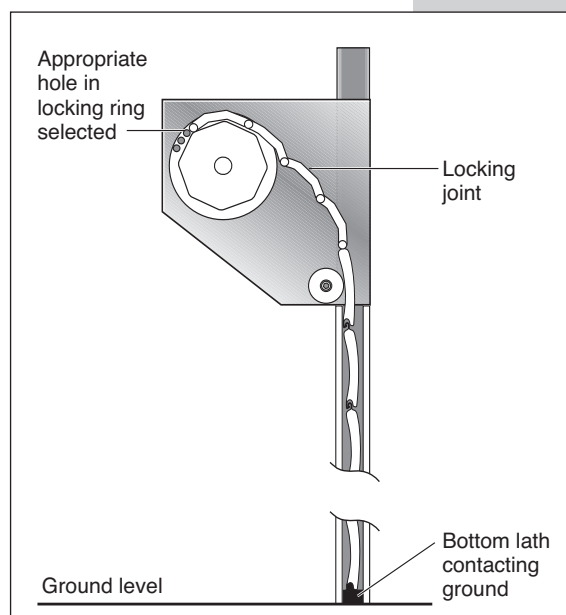
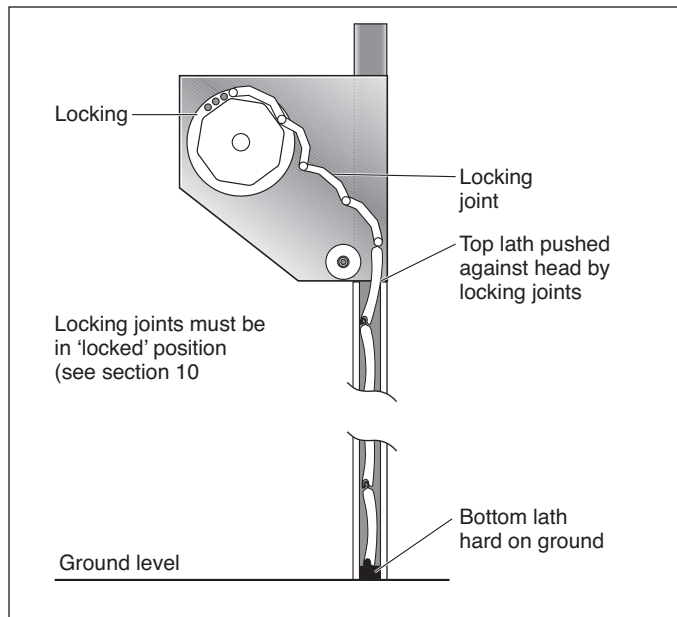

Fig 27 Fully closed position
Fig 28
**IMPORTANT** see Fig 27 and Fig 28 in section 10 for correct CLOSE position.
In order that the locking joints operate effectively, the position of the shaft in the closed position needs to be finely adjusted. Use the Manual override to move the curtain downwards until the bottom lath is pushed firmly on the ground and the top lath is pushed hard against the head. The locking joints should be sprung into the locked position. (Fig 28). Do not adjust past this position as this will impose excessive loads on the mechanism.
**NOTE:** When closing the door manually ensure that the locking joints are set in the fully closed position to ensure security (see Fig. 28).